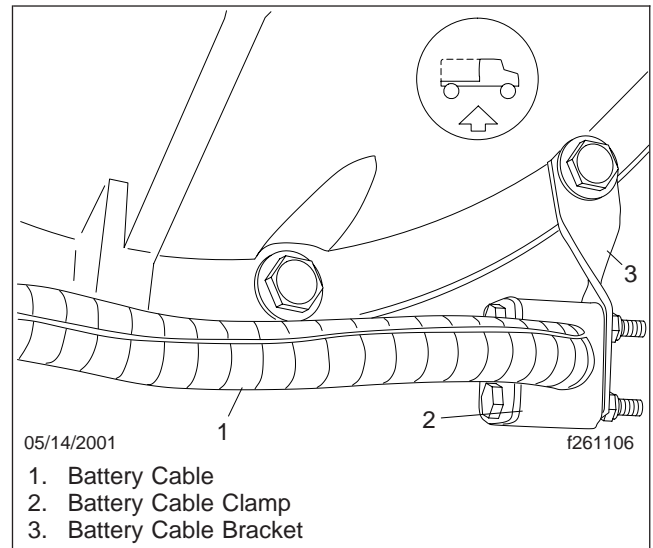

Fig. 10, Battery Cable Routing
11. Remove the battery cable bracket(s) around the transmission and move the battery cables out of the way. See Fig. 10.